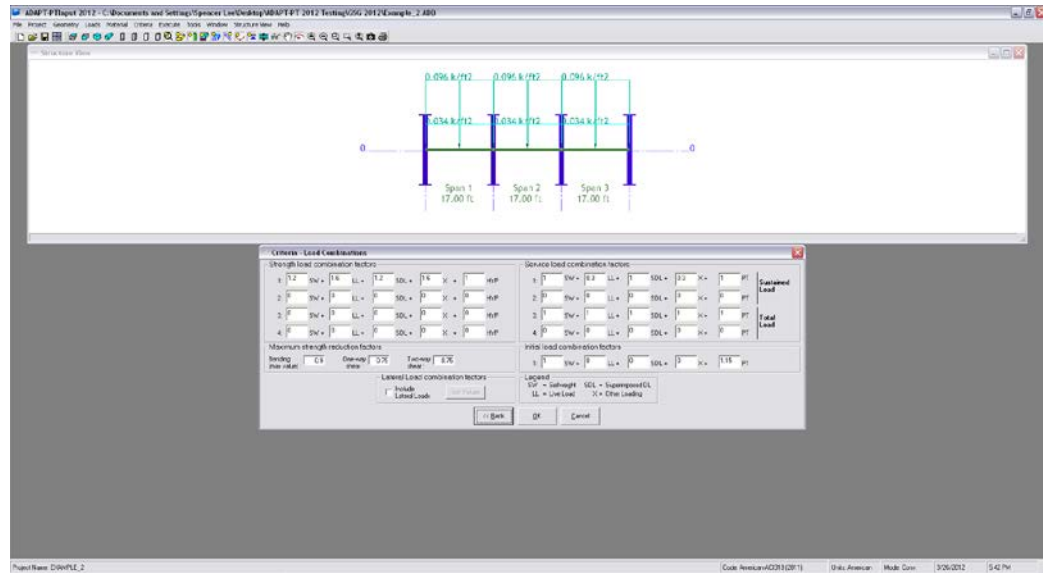

FIGURE 3.1-19
3.1.5.7 Input Load Combinations (Fig. 3.1-19, 20, 21)
Figure 3.1-19 shows the screen which is used to input the load combination factors for service and strength (ultimate) load conditions. It is also used to enter any applicable strength reduction factors. The default values are according to the ACI 318-2011 code. Leave the default values for this example.